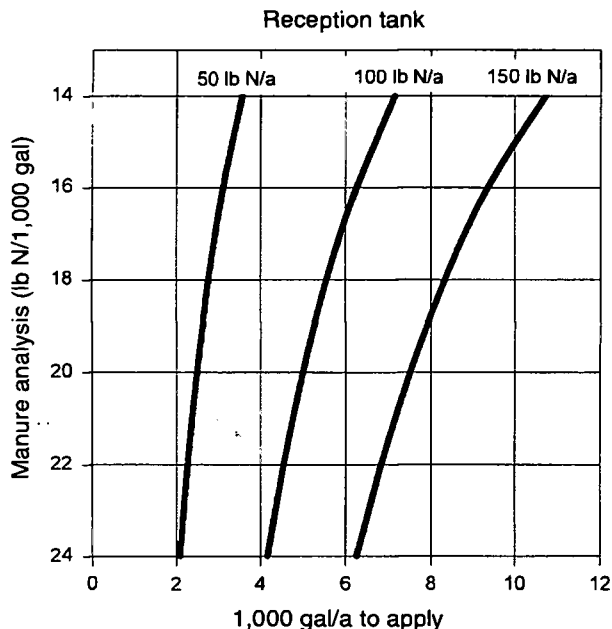
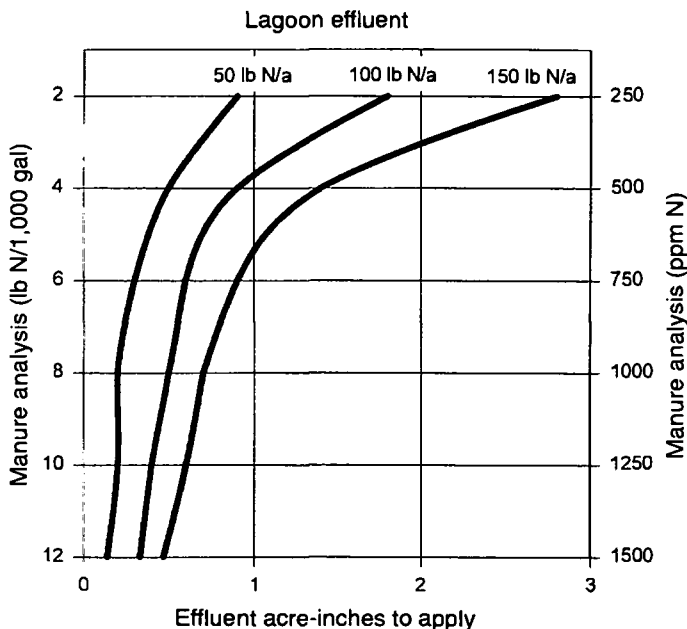
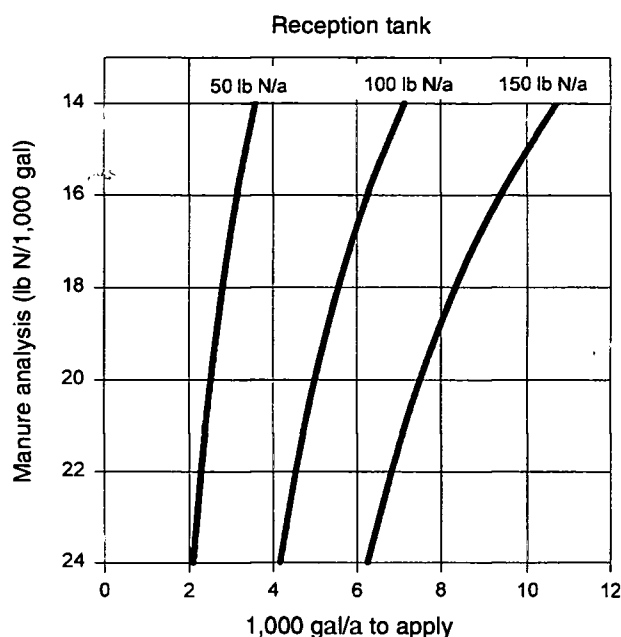
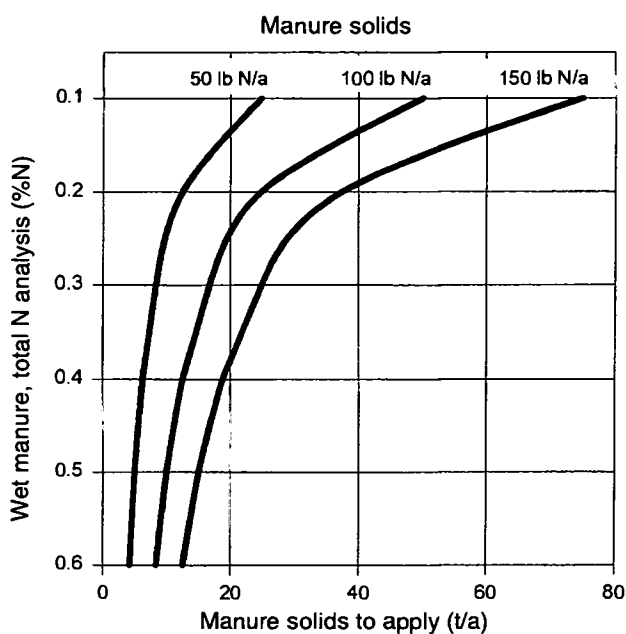

Figure 1.—Determining application rate for reception tank manure.
Figure 2.—Determining application rate for lagoon effluent.
Figure 4.—Determining application rate for reception tank manure.
Figure 6.—Determining application rate for manure solids.
Your goal is to match manure nutrient application rates with crop removal. Table 1 and Figures 1–3 provide the information you need for perennial crops, and Table 2 and Figures 4–6 apply to annual crops. Instructions on how to use them follow. (An example is illustrated on page 3.)
Note: Recommendations in Figures 1–6 assume that nitrogen applications should not exceed crop removal. We assume that N mineralization will offset any volatile losses that occur during application.
3. Find the figure below (Figures 1–3) that represents the type of manure you want to apply. Let's assume you want to apply lagoon effluent, so you'll use Figure 2.
4. Figure 2 contains three lines representing N application rates of 50, 100, and 150 lb N/a. Find the line that is closest to the rate you need to apply. You'll use the line for 50 lb/a because it is closest to 60 lb/a.
3. Find the lagoon effluent graph (Figure 2).
2. Find the figure (Figures 4–6) that represents the type of manure you want to apply. Let's assume you'll apply separated solids, so use Figure 6.
3. Figure 6 contains three lines representing N application rates of 50, 100, and 150 lb N/a. Find the line that is closest to the rate you need to apply. You'll use the line for 150 lb/a since it is the closest to the rate you need to apply (180 lb/a).